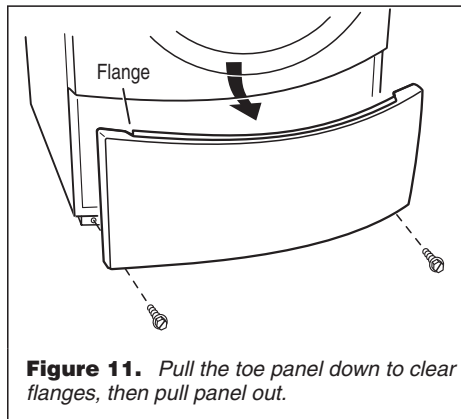

Figure 11. Pull the toe panel down to clear flanges, then pull panel out.
- Access the moisture sensor wires by removing the toe panel (figure 11, page 7) and disconnecting the sensor wires from the harness (figure 9). Go to step 8.
3. Slide the toe panel down, then pull it out from the bottom. See figure 11.